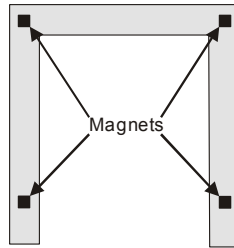

Figure 31
2. The trim is held on by four magnets. These will either be attached to the trim or supplied loose in a separate envelope. Space them as shown in **Figure 31**.